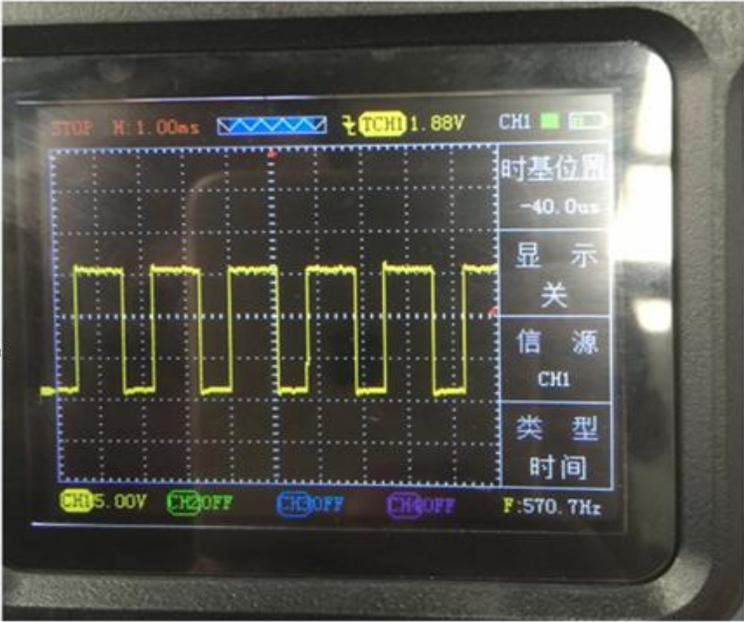

Figure 20
④ Because the oscilloscope “solenoid valve” function has been set by default (probe file 1X, time base file 25ms), simply send the probe to the corresponding signal to visually display the waveform, as shown in Figure 20.